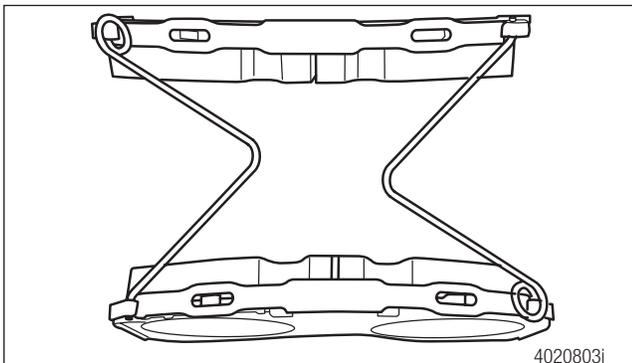

Figure 1
8. Hold the second MFLEX4 pad above and insert the other ends of the springs, one at a time into the holes in the second pad. Figure 1.